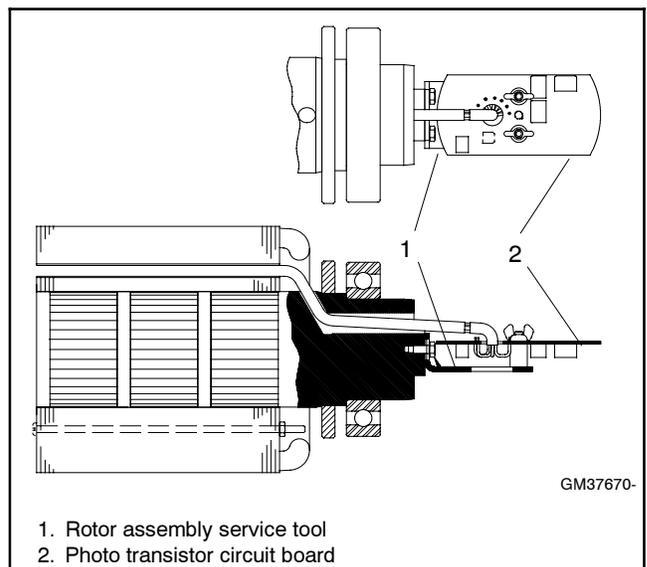

Figure 4-5 Rotor Assembly Service Tool Y-5718
14. **350/400 kW only.** Remove the photo transistor circuit board *screws*. Remove the magnetic actuator and insulator. Attach service tool Y-5718, or equivalent, to rotor shaft and attach the photo transistor circuit board to the service tool. See Figure 4-5.